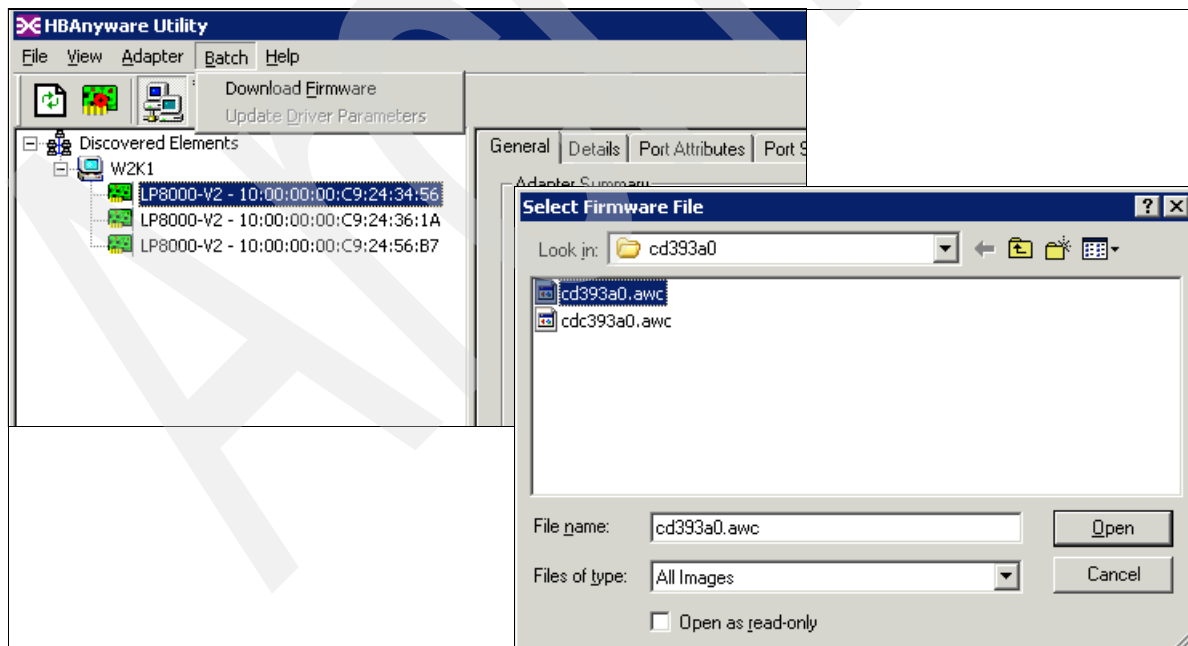

Figure 7-30 HBAnyware: Download firmware
2. In the discovery-tree (left pane), click the HBA entry you want to update. In the menu bar, click **Batch** and select **Download Firmware** (see Figure 7-30).
3. A Select Firmware File window appears (Figure 7-30). Select the firmware you want to update and click **Open**.